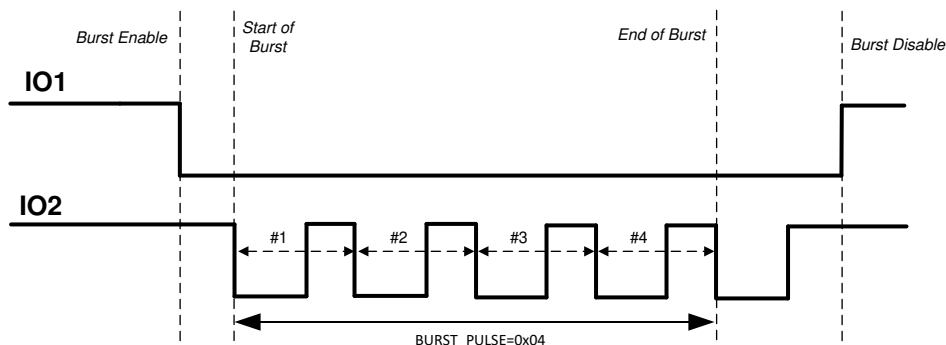

Figure 16. IO_MODE 1 Description
- IO_MODE = 1:** In this mode, the external clock for the transducer is applied at the IO2 pin and the burst mode is enabled when IO1 pin transitions low as shown in Figure 16. The device then expects a clock at IO2 pin to generate pulses on the OUTA/OUTB pins. The start of burst happens from the first falling edge of IO2. The number of pulses are counted by counting falling edge to next falling edge transitions on IO2 once the start of burst is triggered. End of burst sequence is signaled when the number of pulses defined in BURST_PULSE are sent or IO1 transitions high, whichever occurs earlier. TI recommends that IO2 is held high before start of burst to count the number of pulse correctly. After the start of burst, the state of OUTA and OUTB pins are determined by IO1 and IO2 pins as shown in Table 23. A transition of IO1 from low to high to low again is required to initiate a new burst sequence.